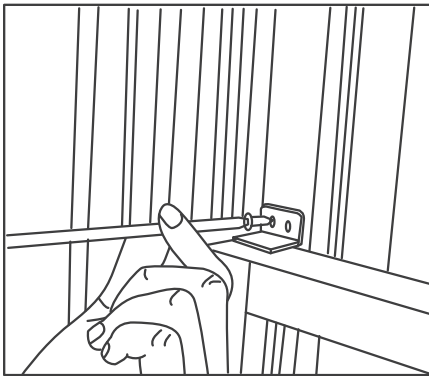

Fig.11
- 6 To secure lower sash in place, attach right angle sash lock with 3/4" (19 mm) screw as shown (Fig.11).